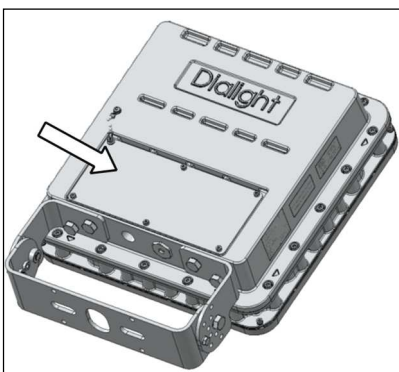

Fig.5
1. Once the light fixture has been mounted in place, remove access cover [Fig.5]
4. Replace access cover [Fig.5] ..... recommended torque \_ 13 in.lb [1.5 Nm]